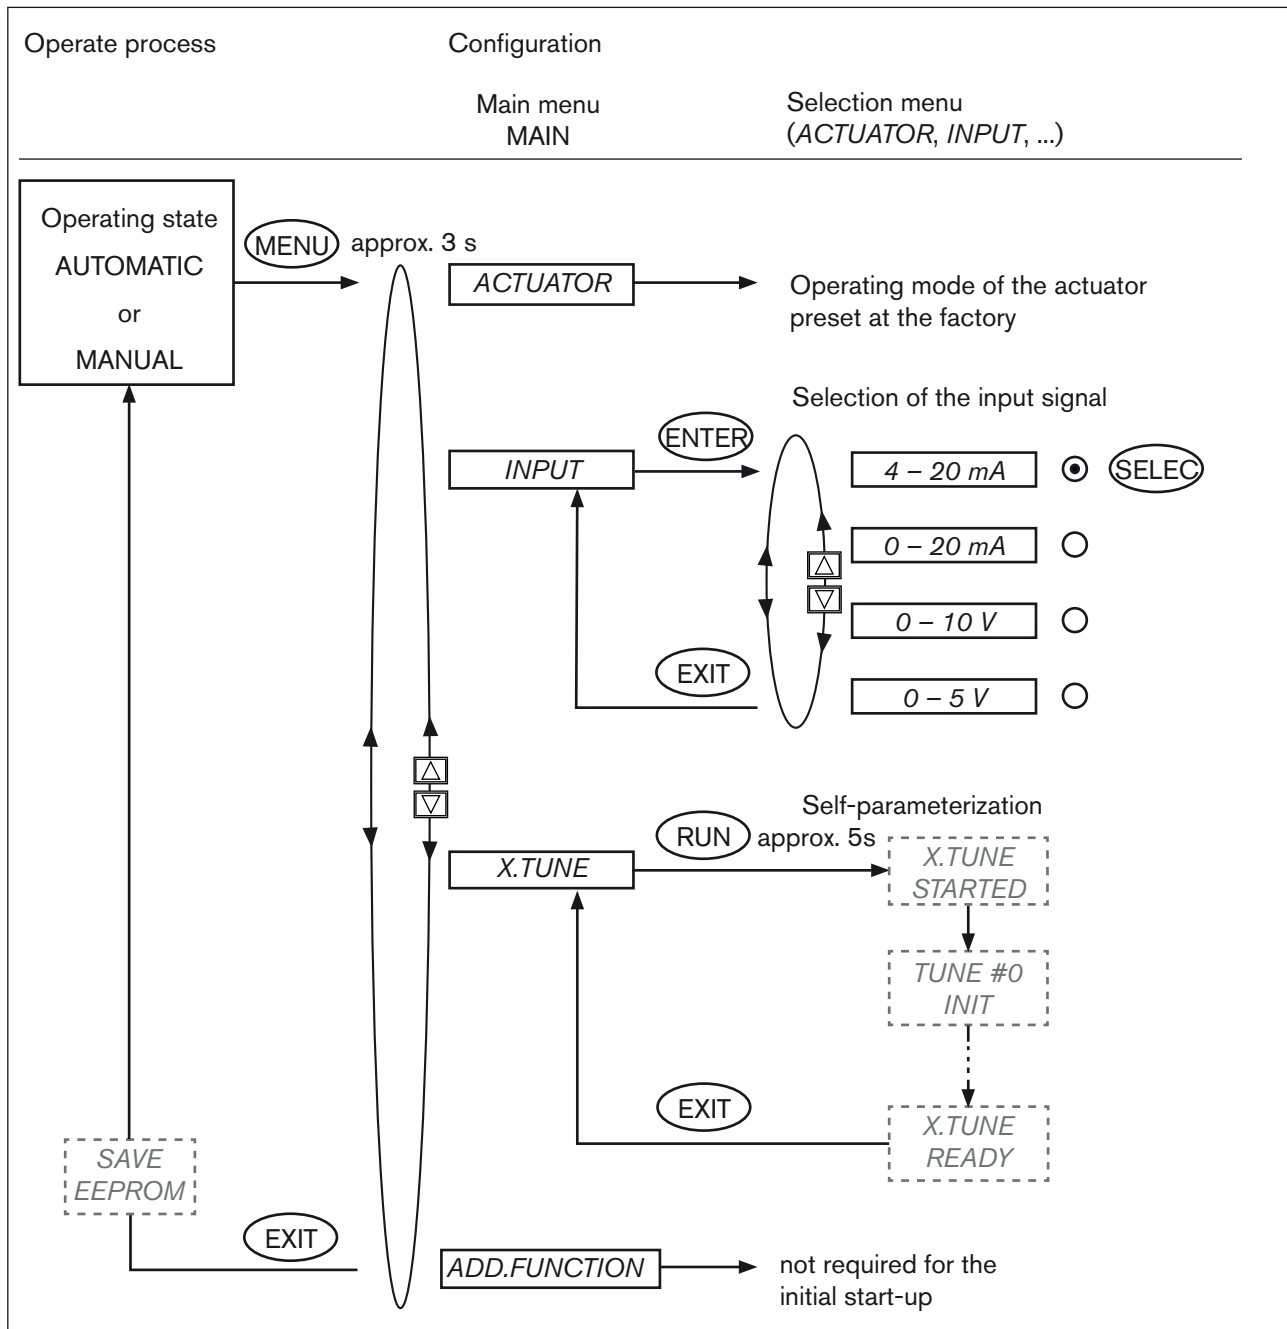

Fig. 29: Operating structure; Basic settings for initial start-up
**!** The overview of the operating structure for the basic settings is illustrated in the following subchapter 18.3.3. in Fig. 29: Operating structure; Basic settings for initial start-up